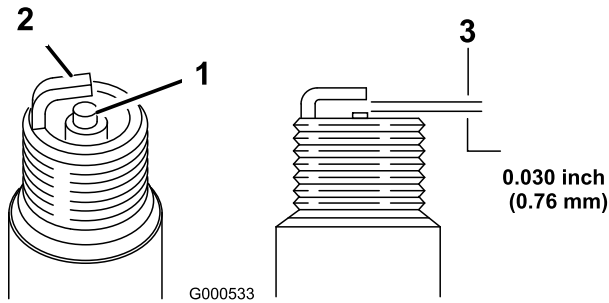

Figure 54
1. Look at the center of the spark plugs (Figure 54).
2. Check the gap between the center and side electrodes (Figure 54) and bend the side electrode, if the gap is not correct.